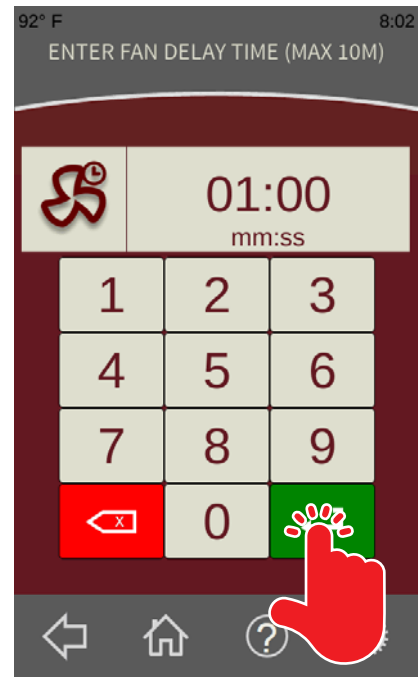

Fig. 22
- From the **Fan Delay Time Screen** (Fig. 22), enter the desired time on the keypad and touch the green Enter button (Fig. 22). The **Standard Recipe Run Screen** should be displayed.